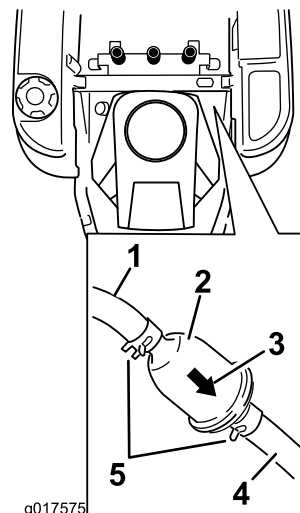

Figure 33
3. Locate the fuel filter on the side of the engine as shown in Figure 33.
4. Squeeze the ends of the hose clamps together and slide them away from the filter (Figure 33).
6. Install a new filter with the flow direction arrow coming from the fuel tank and pointing to the engine. Move the hose clamps close to the filter (Figure 33) to secure it in place.